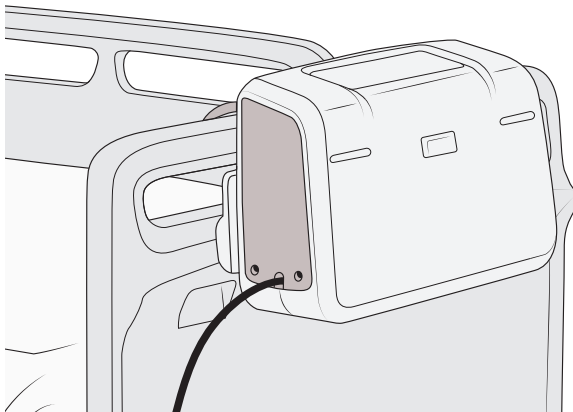

Figure 35
1. Hang the Auralis pump at the foot end of the bed. See Figure 35